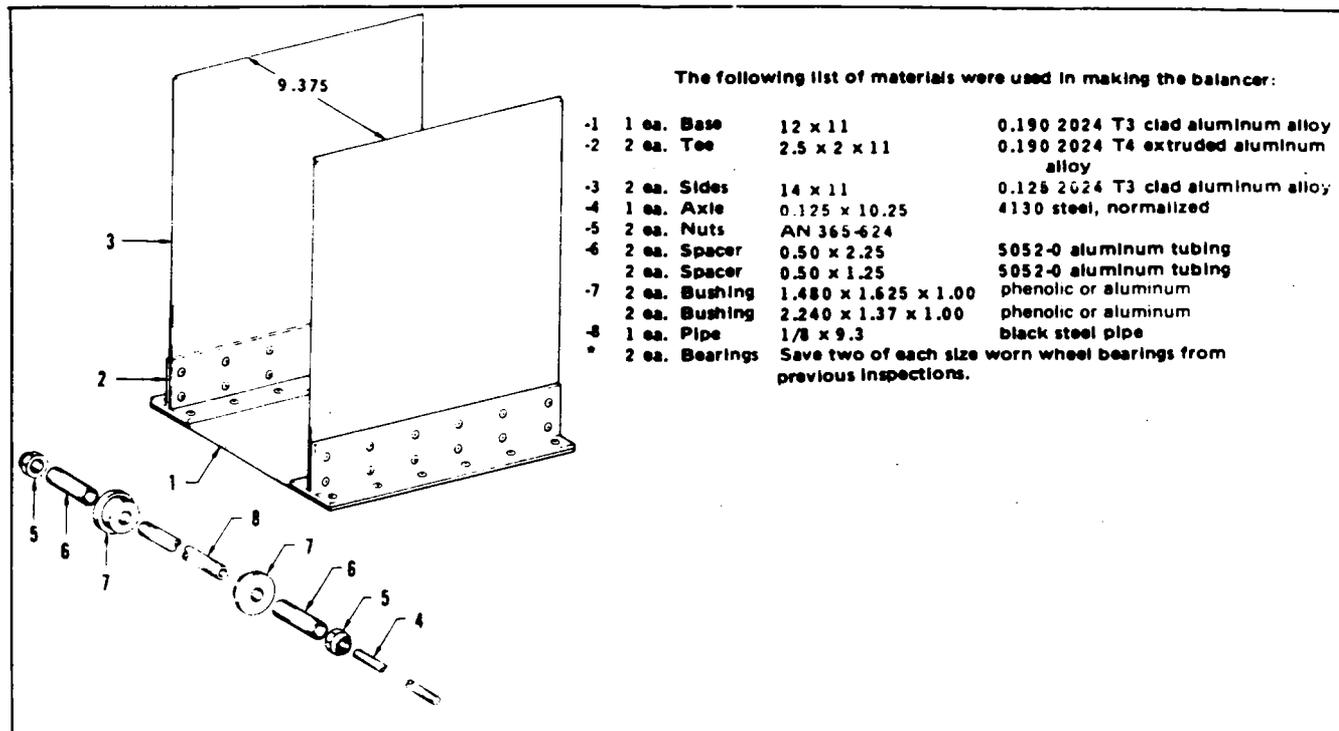

Figure 95-10. Tire Balancer
**CONSTRUCTION OF TIRE BALANCER.** (Refer to Figure 95-10.)